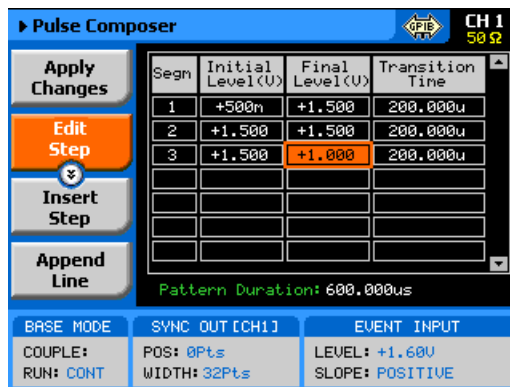
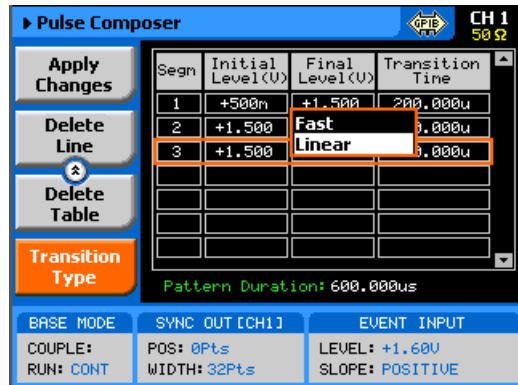
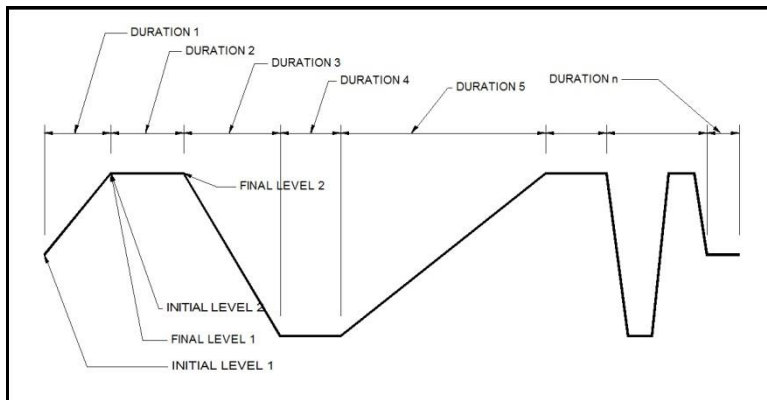
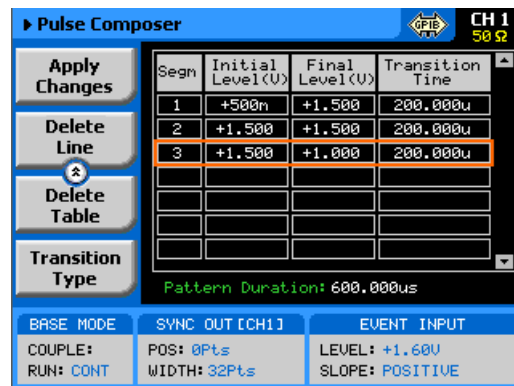

Figure 3-71, Pulse Composer Menus Example
Figure 3-72, Selecting the Proper Pulse Composer Configuration
Figure 3-74, “Linear” Transition Pulse Example
Figure 3-75, Linear Transition Pulse Composer Example
3. Press the Pulse Composer soft key and observe the Pulse Composer editing fields as demonstrated in Figure 3-71.
Always, as the first step before you start building your patterns, make sure that you are building the correct configuration, fast or linear. Scroll down to the Transition Type, as shown in Figure 3-72 and select the proper pulse composer configuration setting. The default setting is “Fast” so you need not do any action if this is what you intend to create.
Figure 3-72 demonstrates a simple fast transition pulse pattern. Notice that the pattern is built from segments, each having level and duration. Levels are specified in volts and duration is specified in seconds. Each level can have a unique amplitude level and duration as long as these reside within the range that is specified in Appendix A. Also note that the table entries in Figure 3-71 were not used to build the pulse pattern as shown in Figure 3-72.
To access the pulse composer tab menus, simply press one of the tabs and modify or select the parameters that are associated with this specific tab. When the pulse composer has been selected, the composer tabs, as shown in Figure 3-71, will allow access to the following parameters:
Patterns that have “linear” transitions are those that use the slow transition times (rise and fall times). Figure 3-72 demonstrates a simple linear transition pulse pattern. The pattern is built from segments, each having an initial and final level and a transition time. Levels are specified in volts and transition times are specified in seconds. Each segment can have a unique amplitude level and transition time as long as these reside within the range that is specified in Appendix A. Note that the table entries in Figure 3-75 were not used to build the pulse pattern as shown in Figure 3-74.
When you start building a pattern table, only the first segment allows access to the Initial level. The final level of step 1 will automatically become the start level of the second segment and will not be accessible when you edit the second segment and so on for the rest of the segments. Therefore, if you look at the composer table in Figure 3-75, the Final Level value is the same as the Initial Level of the following segment transition.
To select the linear transition option, scroll down to the Transition Type and select the “Linear” option, as shown in Figure 3-74. The linear pulse composer table is shown in Figure 3-77.
To access the pulse composer tab menus, simply press one of the tabs and modify or select the parameters that are associated with this specific tab. When the pulse composer has been selected, the composer tabs, as shown in Figure 3-75, will allow access to the following parameters: